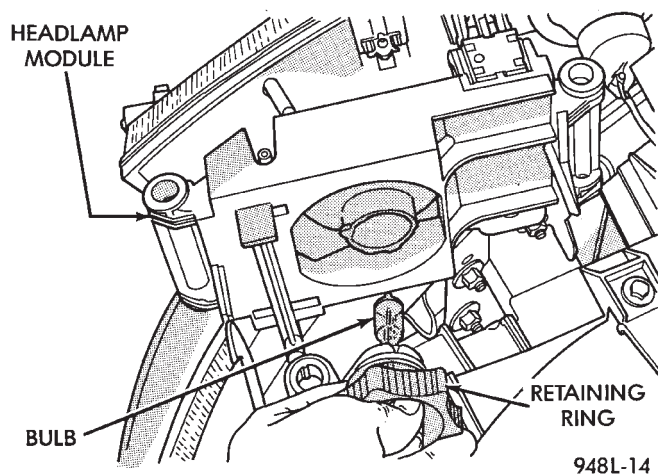

Fig. 1 Headlamp Bulb
- (1) Release hood latch and open hood.
- (2) Remove radiator closure panel sight shield as necessary to gain access to headlamps.
- (3) Remove screws holding headlamp module halves together.
- (4) Separate module halves.
- (5) Disengage wire connector from back of headlamp bulb.
- (6) Remove retaining ring holding bulb to lamp (Fig. 1).
- (7) Pull bulb from lamp.